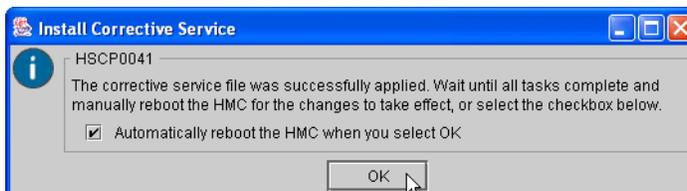

Figure 14-25 HMC Install fix completion message
6. When the installation of HMC fix has completed you will receive a completion message (Figure 14-25)